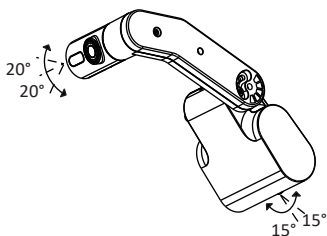

Figure 3-5 Mount Back-Camera
- Step 6** Connect cable and adjust the camera to a proper angle according to the camera vision. The angle of the front and back camera are adjustable, as shown in Figure 3-5.